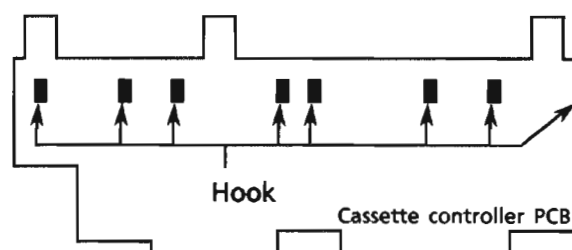

Fig. 10
2. Release the 8 hooks to remove the controller PCB (Fig. 10).